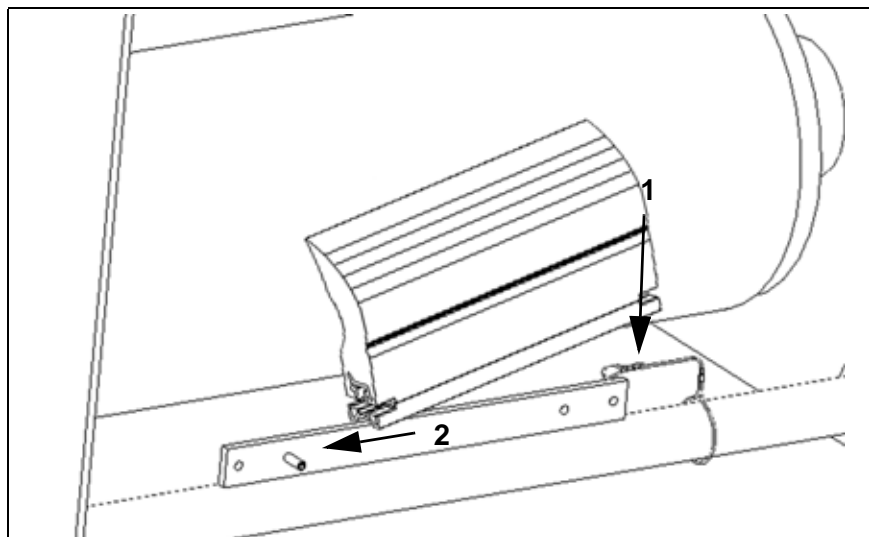

Fig. 11
7. Place a new blade onto the mainframe (1, Fig. 11)
8. Slide the blade onto the hollow clamping pin (2, Fig. 11).